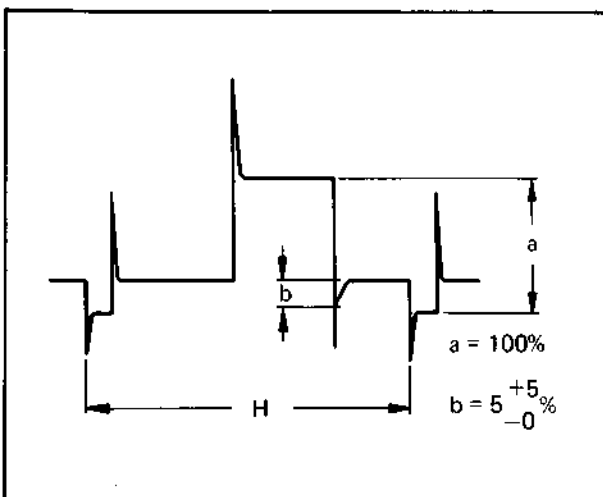

Fig. 6-31 Aperture adjustment
4. Adjust R54 (APERTURE) so that the amplitude of (a) and (b) becomes as shown in Fig. 6-31.